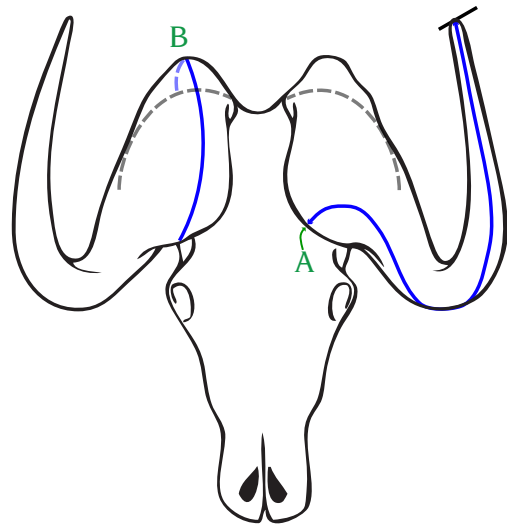

Figure 2
2. Width. Measure the width of each boss at its widest point from top to bottom. To determine where to measure the width, it's best to use a caliper. Mark the widest points with chalk, but do not measure with the caliper. Place the tape where the horn meets the skull in front and go over the highest point of the boss to the back end where the horn ends and the skull appears at the back (Figure 2, H). This is NOT a circumference measurement. Do not measure hair or taxidermist materials.